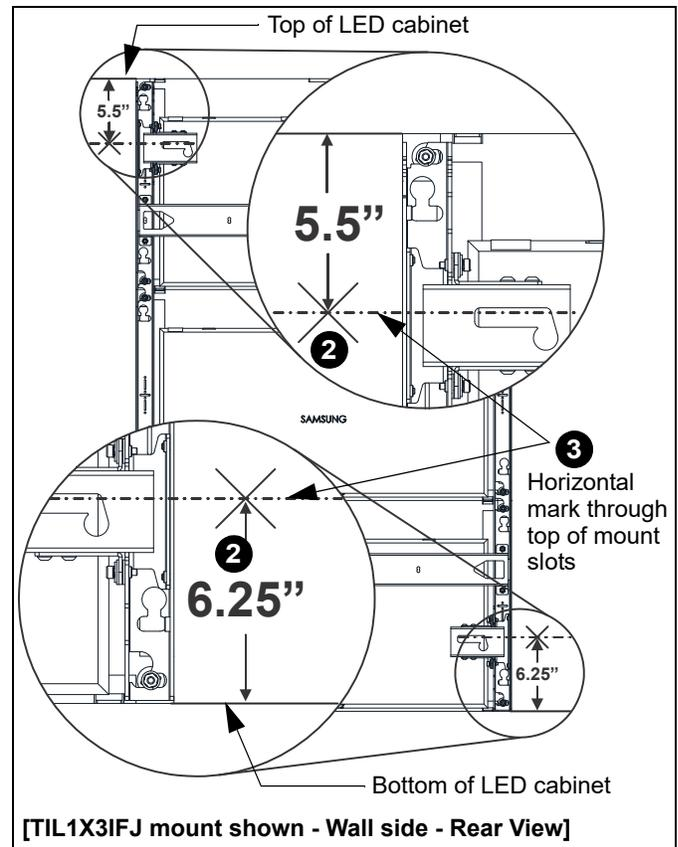

Figure 4
IMPORTANT ! : The top of the LED panel is 5.5" above the top of the **UPPER** mounting slots, and the bottom of the LED panel is 6.25" below the top of the **LOWER** mounting slots. (See Figure 4)
1. Determine top or bottom panel height location and horizontal placement of mounts. (See Figure 4)
2. Make a mark 5.5" **below** the planned top edge (or 6.25" **above** the planned lower edge) of the LED wall. (See Figure 4)
NOTE: This line will be located at the top of the mounting slots across the width of the LED video wall. The oversize mounting slots will allow some upward adjustment as needed. (See Figure 4)